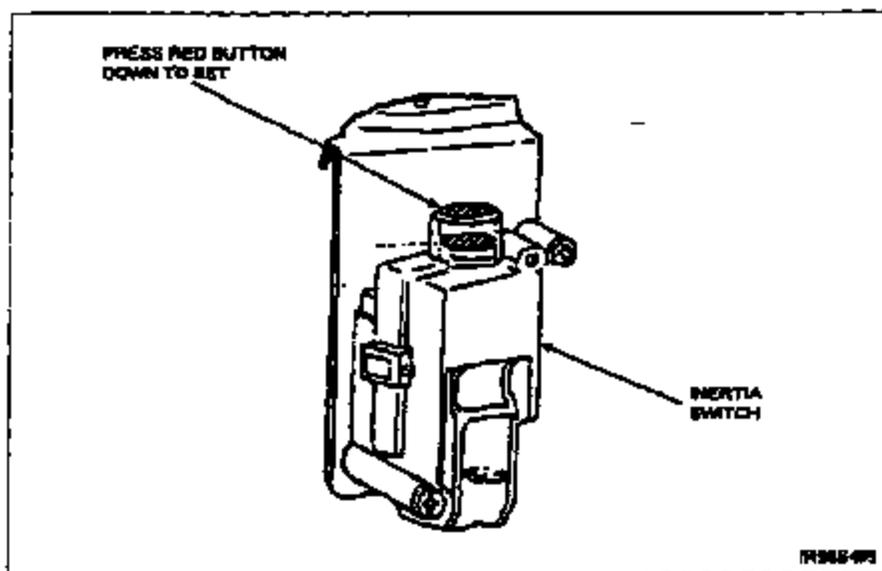

Figure 2
6. Depress the red button on the top of the switch. See Figure 2.